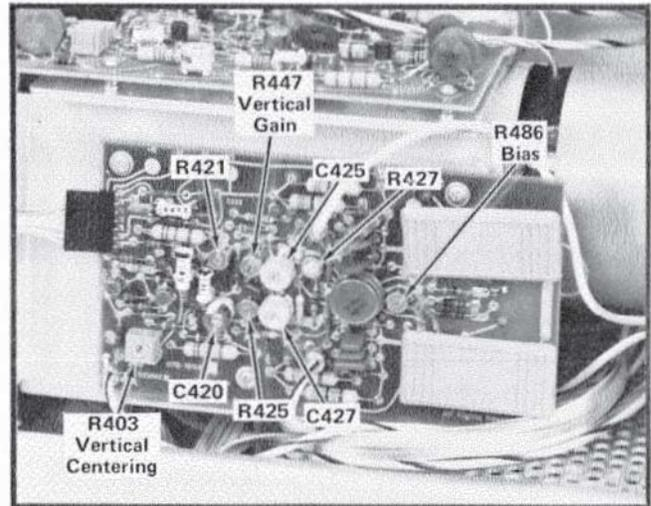

Fig. 3-3. Location of vertical system adjustments (Vertical Output board).
- d. ADJUST—Bias R486 for maximum gain. (See Fig. 3-3.)
- c. ADJUST—Vertical Centering adjustment R403 (see Fig. 3-3) to position the trace to the center horizontal line.
- d. ADJUST—Vertical Gain adjustment R447 (see Fig. 3-3) for exactly six divisions of deflection between the second and eighth traces.
d. ADJUST--High-frequency compensation as given in Table 3-2 for optimum square leading corner and flat top with minimum aberrations within limits given in part c. Location of adjustments is shown in Fig. 3-3. Use the low-capacitance screwdriver to adjust the variable capacitors. Repeat the complete adjustment procedure several times to obtain optimum adjustment.